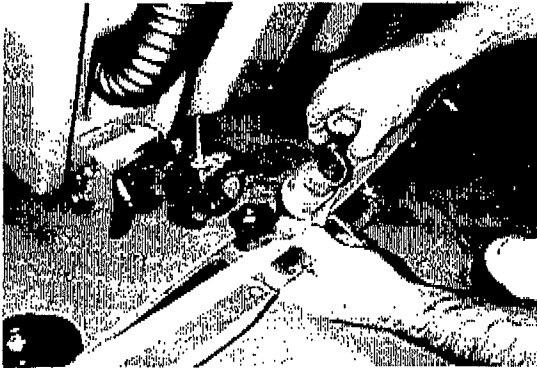

FIG. 8
3. Loosen two thumb knobs on squeegee assembly and slide squeegee into slots on squeegee mount bracket (Figure 8).